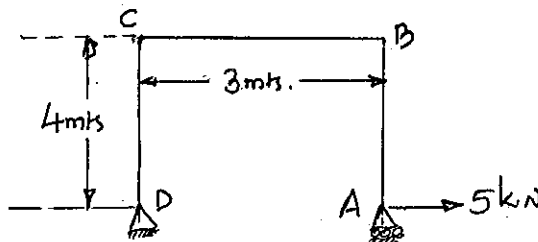

Fig.Q3(b)
- b. Determine the horizontal displacement of the roller end 'A' of the frame, shown in Fig.Q3(b). Take $EI = 800 \text{ kN.m}^2$ throughout. (12 Marks)